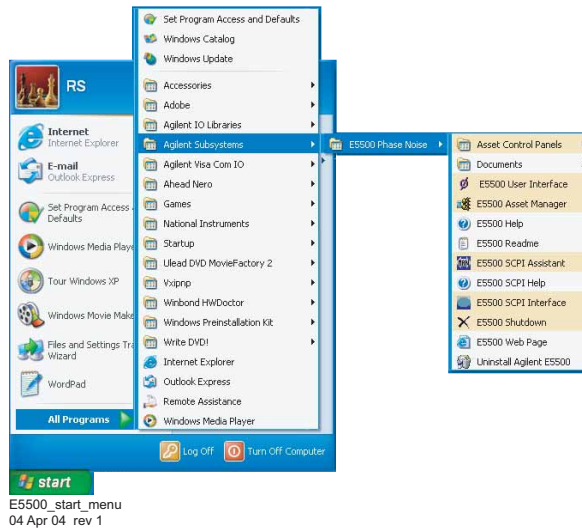

Figure 4 Navigation to the E5500 user interface
- 2 Using Windows® **Start** menu as in Figure 4, navigate to the **E5500 User Interface**.